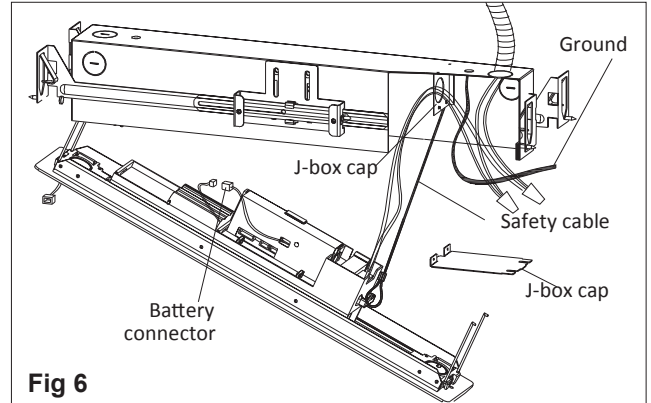

Fig 6
2. Separate trim plate, press one side spring to take out the module, **connect battery connectors.** (see Fig 6)
3. Hang safety cable to the module clip. (see Fig 6)
4. Disassembly J-box cap, Route the AC line and proper wires into the J-Box. (see Fig 6)
6. Push excess wire into J-Box, tighten J-box cap back. (see Fig 6)